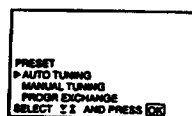

Fig. 5
- Select "PRESET" with  $\Delta$  or  $\nabla$  and press OK. The PRESET menu appears. (See Fig. 5.)